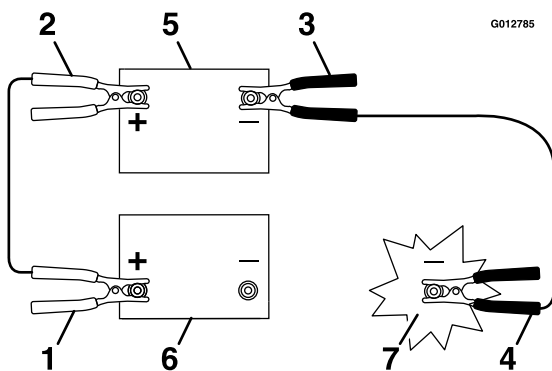

Figure 79
3. Connect the positive (+) cable to the positive (+) terminal of the discharged battery that is wired to the starter or solenoid as shown in Figure 79.